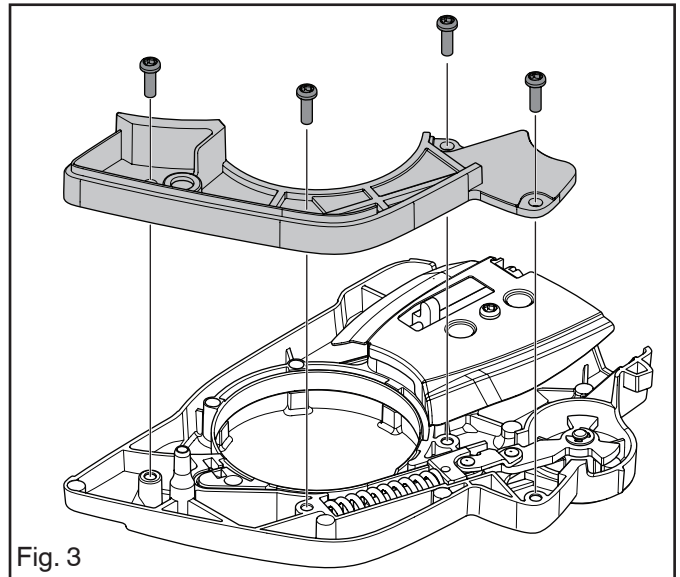

Fig. 3
4. Loosen the screws and carefully remove the cover over the brake spring. Make sure the spring does not fly out. See Figure 3.
3. Fit the cover over the chain brake spring and tighten the screws. See Figure 3.